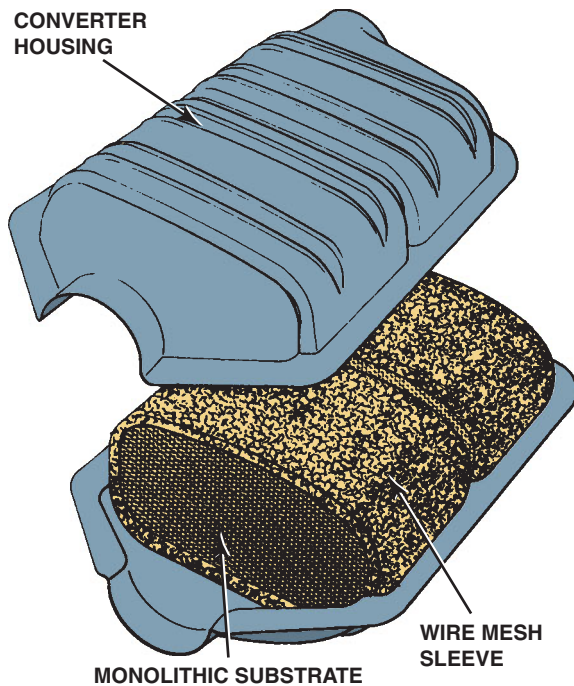

FIGURE 28-2 A typical catalytic converter with a monolithic substrate.
- The catalytic materials are then applied on top of the washcoat. The substrate is contained within a round or oval shell made by welding together two stamped pieces of aluminum or stainless steel. ● **SEE FIGURE 28-2.**